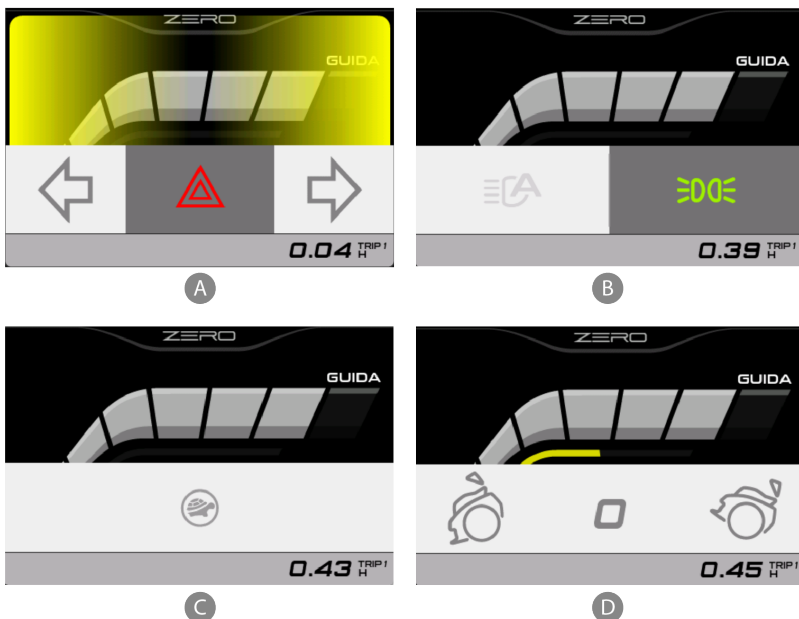

Figure 5.12 - “Quick Command Menu” screen
By repeatedly pressing the button, the following options are accessed in sequence (Figure 5.12):
1. Activation of the yellow direction arrows (Figure 5.12 A)
2. Activation of the automatic switch-on/off option for the headlights (where available) (Figure 5.12 B)
4. Setting balance tilt of GENNY (Figure 5.12 D).